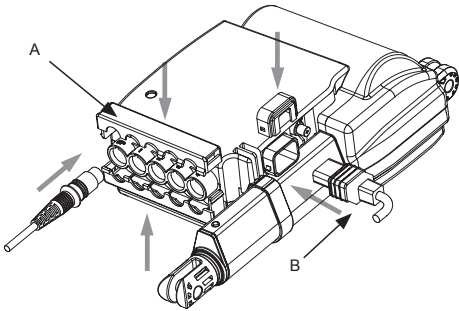

Fig.3
- b. After inserting connectors of an actuator and a key box ◦ vertically insert back the fixer on LAK4D controller (A) , and then fasten the up fixer and down fixer on LAK4D controller (Fig. 3). Before inserting the main power cord ◦ rotate out the locker (B) along the arrow direction to insert power cord (Fig. 3) and then pull it back (Fig. 3) along the arrow direction.